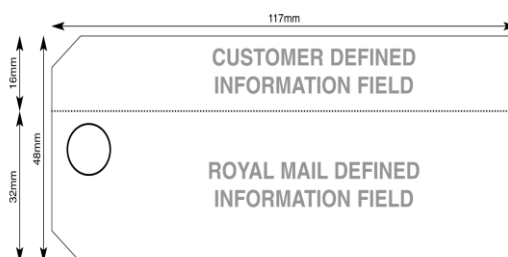

Figure 13: Bag label positioning guide
- Figures 13 and 14 below show the dimensions of our bag and Tray labels. Both show the area for use by you to input your label information to assist you with your own routing of the Mailing Items